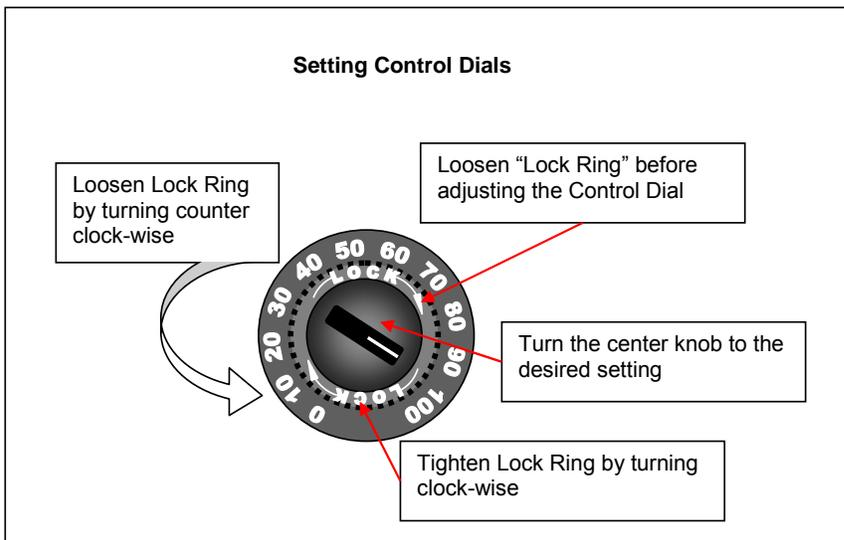

Figure III-20B
3. When you have adjusted the feeder to operate properly, adjust the belt speed of the feeder to the desired running speed. See figure III-20B.